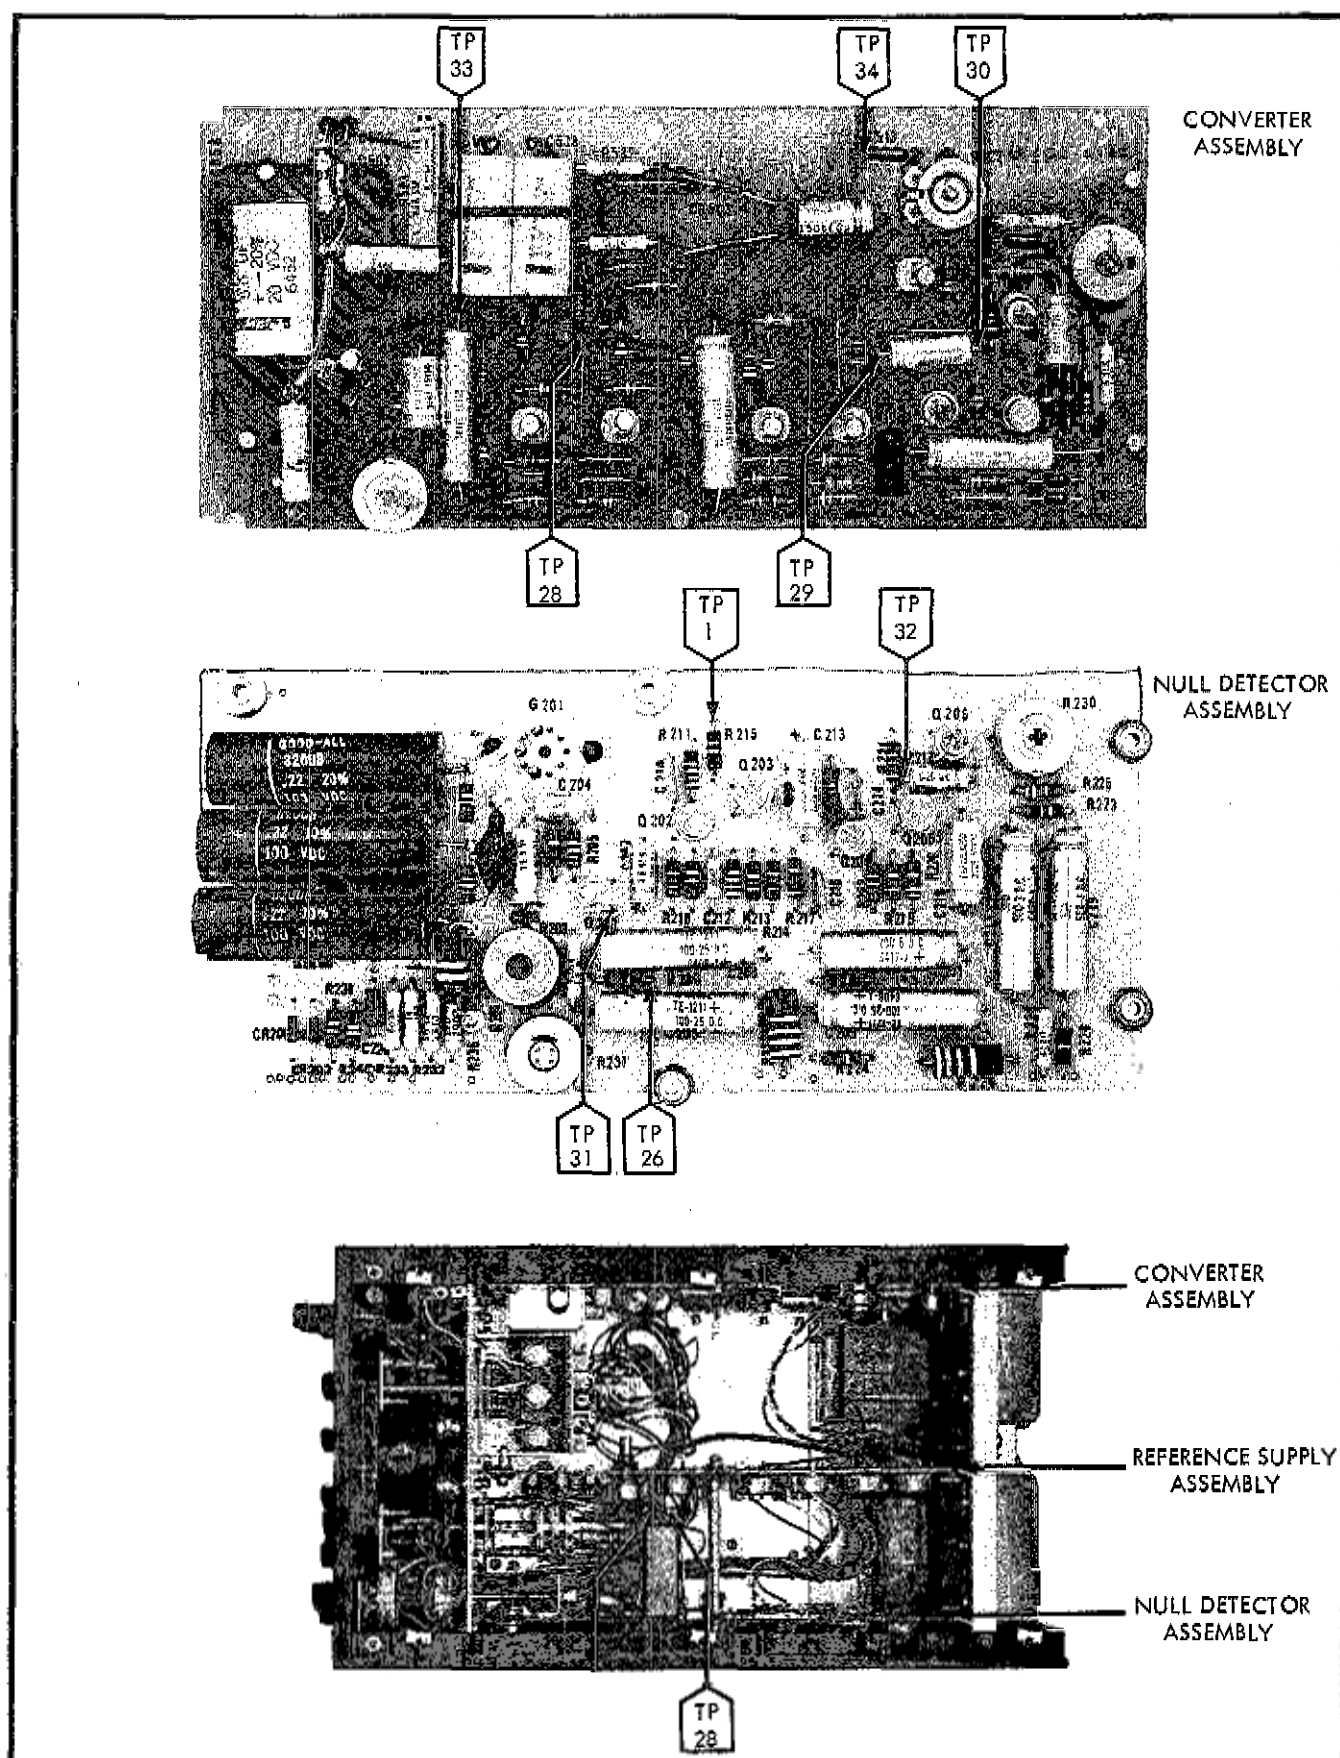

Figure 4-8. CALIBRATION AND MAINTENANCE TEST POINTS
- Connect a differential voltmeter between circuit common 1, TP1 on schematic and in Figure 4-8, and -18 volt reference supply output, TP26.
- Connect a differential voltmeter between circuit common 2 and +18 volt supply output, TP29 and TP30 in Figure 4-8.
- Connect an rms voltmeter between circuit common 2 and +18 volt supply output, TP29 and TP30 in Figure 4-8.
- Connect a differential voltmeter across the drive coil of chopper G201, TP27 and TP28 in Figure 4-8.
- Connect an electronic counter between one side of the chopper drive coil and circuit common 1, TP27 or 28, and TP1 in Figure 4-8.
a. Measure voltage between circuit common 2 and drain of Q501, TP29 and TP31 in Figure 4-8, with a vtvm.